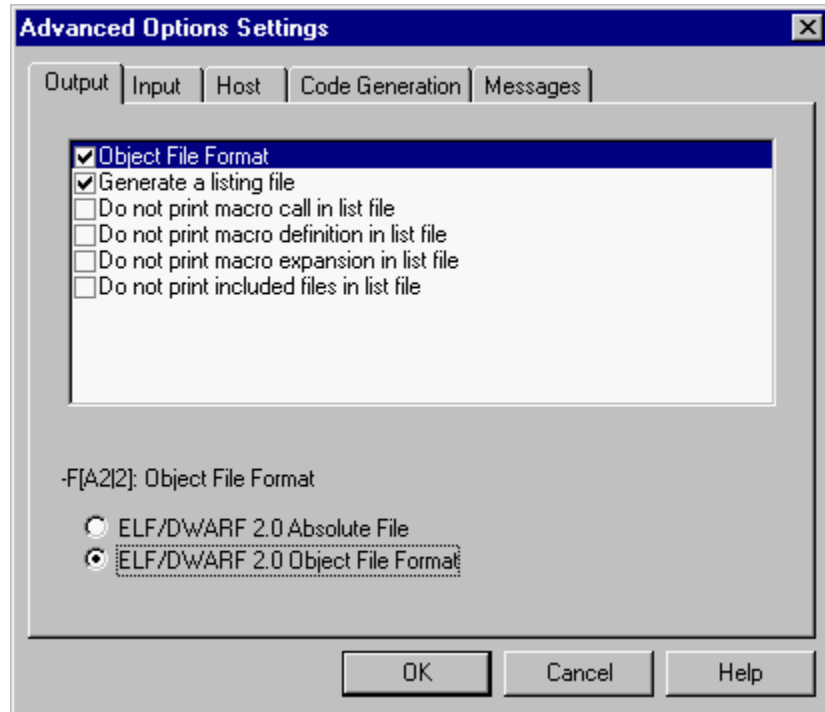

Figure 1-7. Selecting an Object File Format
3. In the **Output** tab, select the check box in front of the label **Object File Format** (shown in **Figure 1-7**). Select the radio button **ELF/DWARF 2.0 Object File Format** and click **OK**. The assembler is ready to generate an *ELF/DWARF 2.0* object file.